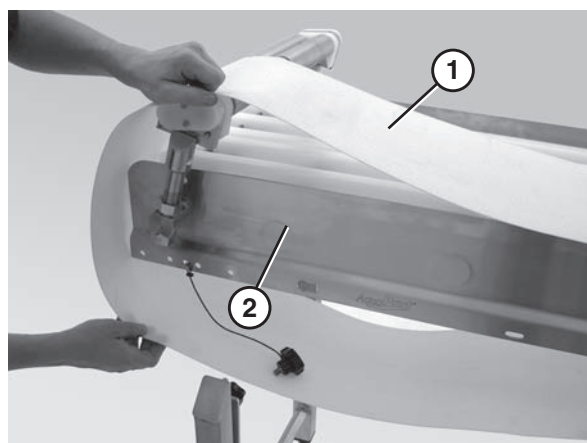

Figure 19
7. Slide the belt (**Figure 19, item 1**) on over the conveyor frame (**Figure 19, item 2**).